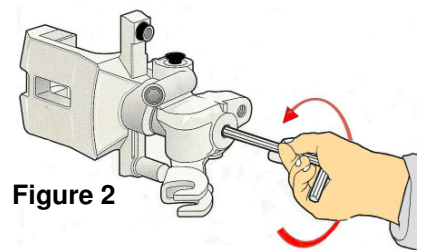

Figure 2
- ✓ Slacken the hexagon socket screw (**Fig. 2**). Withdraw the piston until it stops moving.